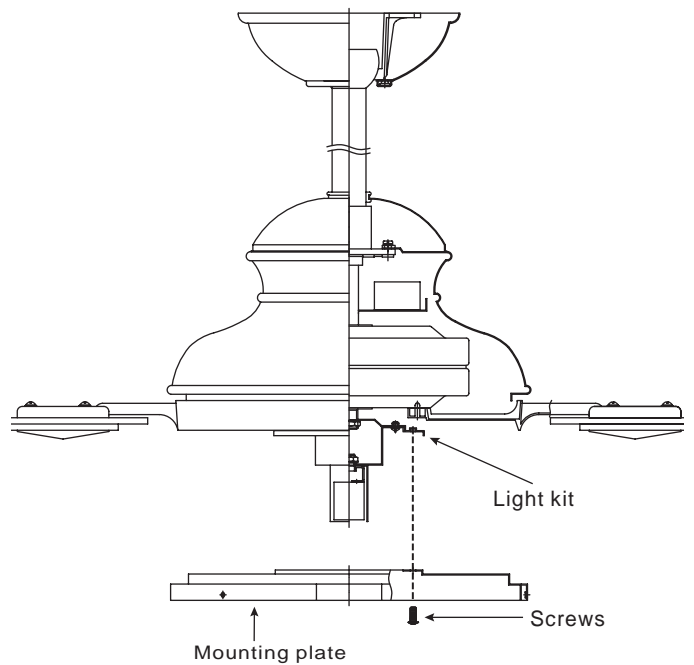

Figure 17
Step 2. Place the key holes on the mounting plate over the 2 screws previously loosened from the light kit turn mounting plate until it locks in place at the narrow section of the key holes. Secure by tightening the 2 screws previously loosened and the one previously. (Fig. 17)